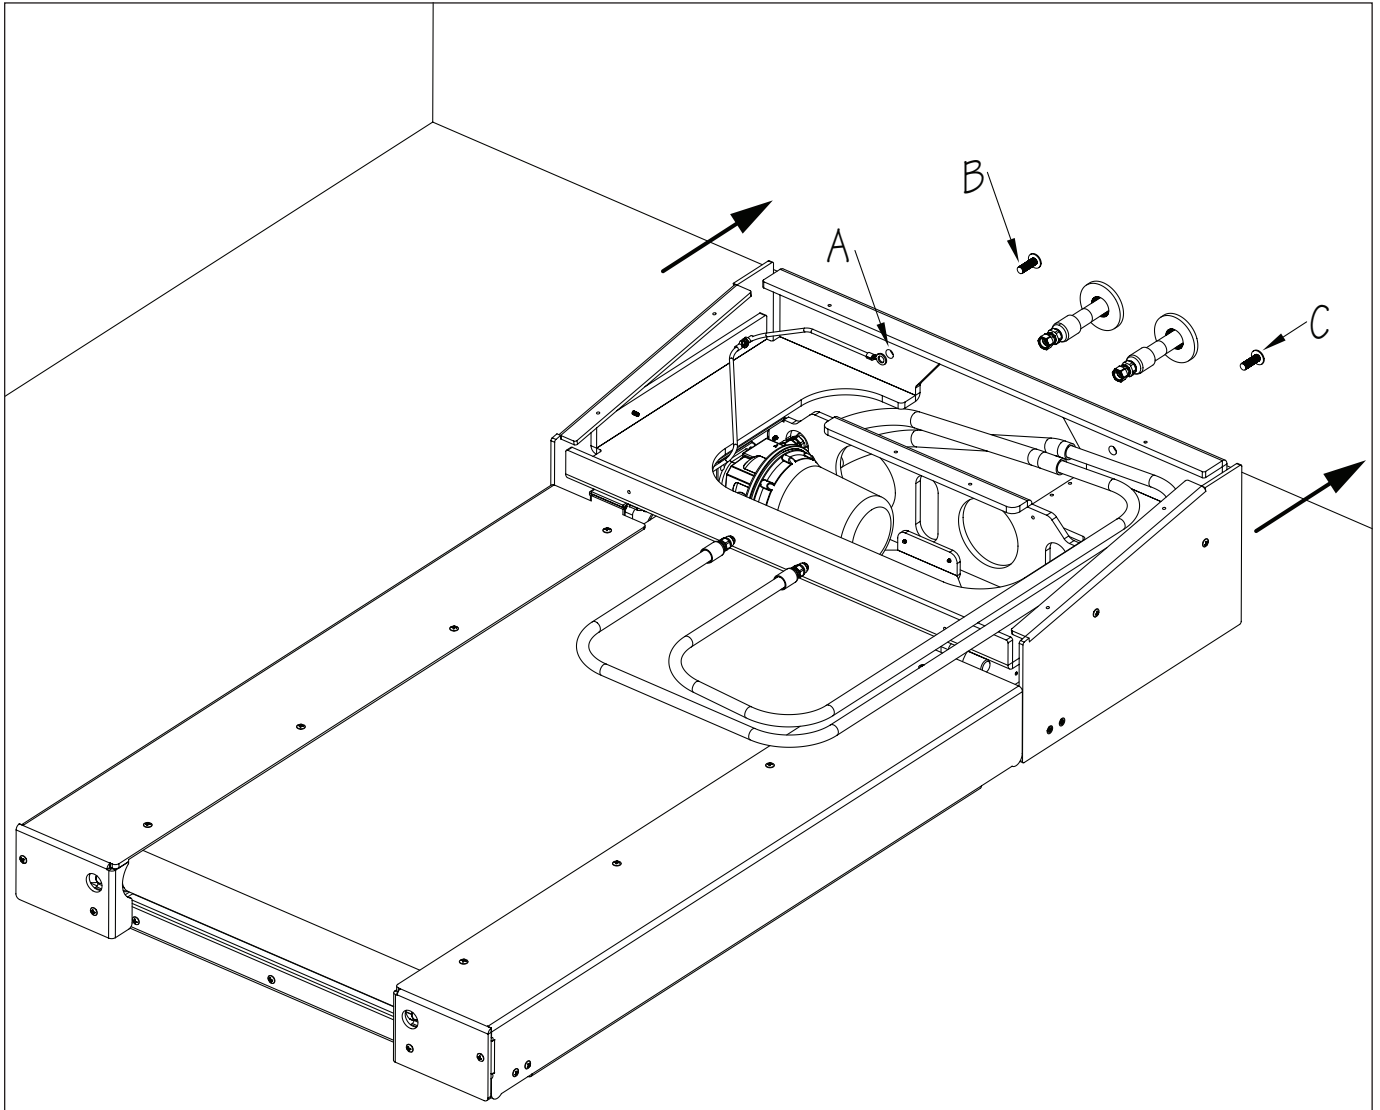

Fig. 12
1. With a minimum of two people, lower the treadmill into the pool. Align the mounting holes (A) with the Threaded Rods/Studs (B) and position against the pool wall. If being installed in a vinyl liner pool, make sure the Rubber Washers (C), included in the mounting kit, are installed (Fig. 12).